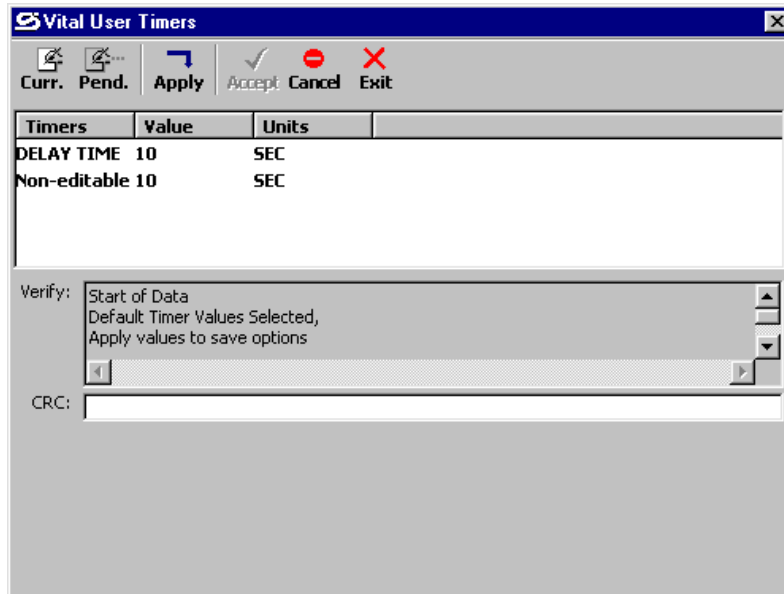

Figure 3-54
1. Bring up the **Vital User Timers** screen (Configure menu/Vital User Timers) as shown in figure 3-54. The display includes a box for the configured Timers.
3. Immediately below the Timers box is the “Verify” list box. The current values are also displayed in the “Verify” list box, unless the default values have been imposed (refer to figure 3-54 for an example of default values). The data in the “Verify” list box is preceded with “Start of Data”, and followed by “End of Data”. The current values in the **Value** field must match the values in the “Verify” list box. Also, the number of Timer items listed in the “Current” column is indicated in the “Verify” list box.